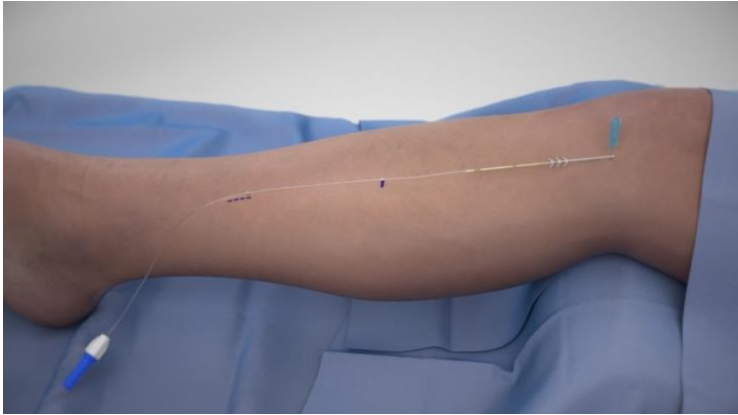

Figure 2
2. Place the electrode array on the sterile skin using the marker needle as a guide in fluoroscopic view. (Figure 2)
another mark 1 cm past the receiver marker band to estimate the location of the pocket. (Figure 2)